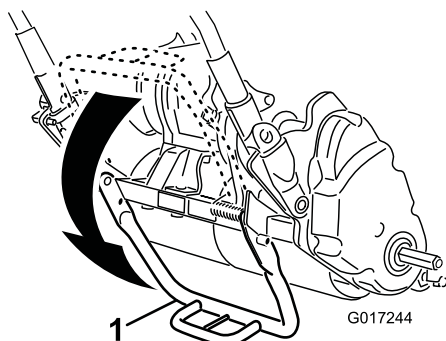

Figure 15
1. Push the kick stand down with your foot and pull up on the handle support until the kick stand has rotated forward, over center (Figure 15).